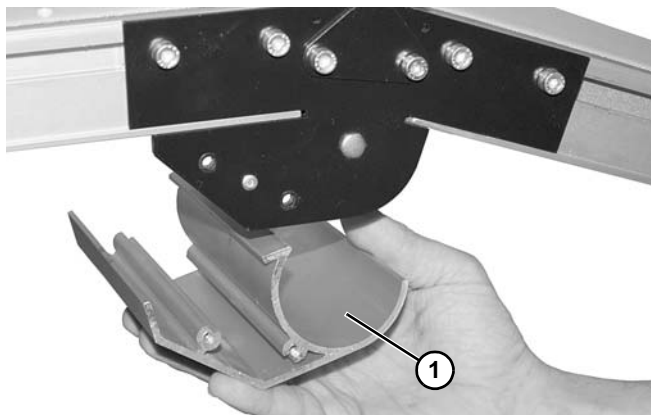

Figure 125
2. Remove guard (Figure 125, item 1).